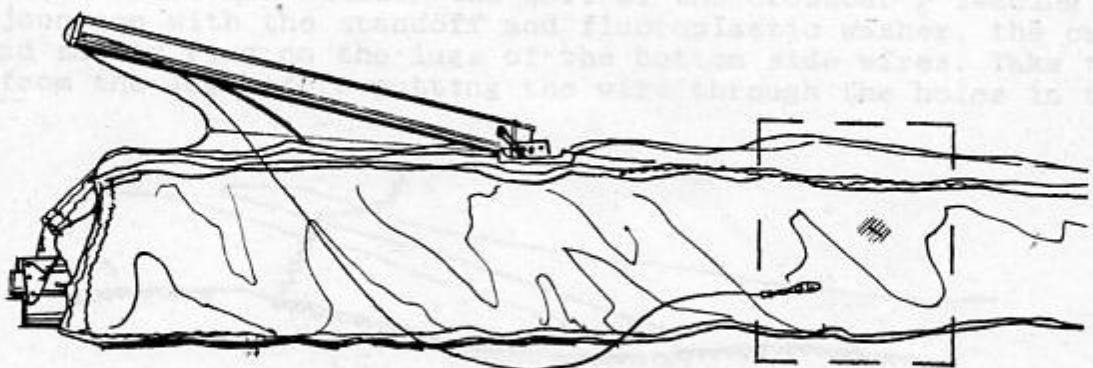

Fig. 3.1.32.
18. Spread the wings about half way. Put the top side wires through the corresponding holes in the leading edge of the sail (Fig. 3.1.32, 3.1.33).